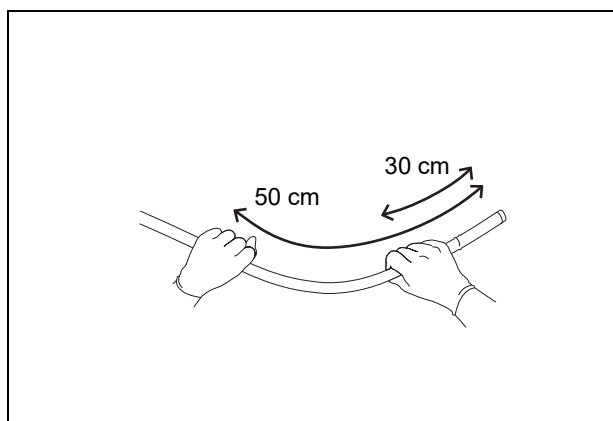

Figure 3.6
3. Set the insertion section to the most flexible and most rigid conditions, respectively. In each case, hold the insertion section with two hands between 30 and 50 cm from the distal end, and bend it gently as shown in Figure 3.6. Confirm that the actual flexibility changes according to the flexibility adjustment setting.